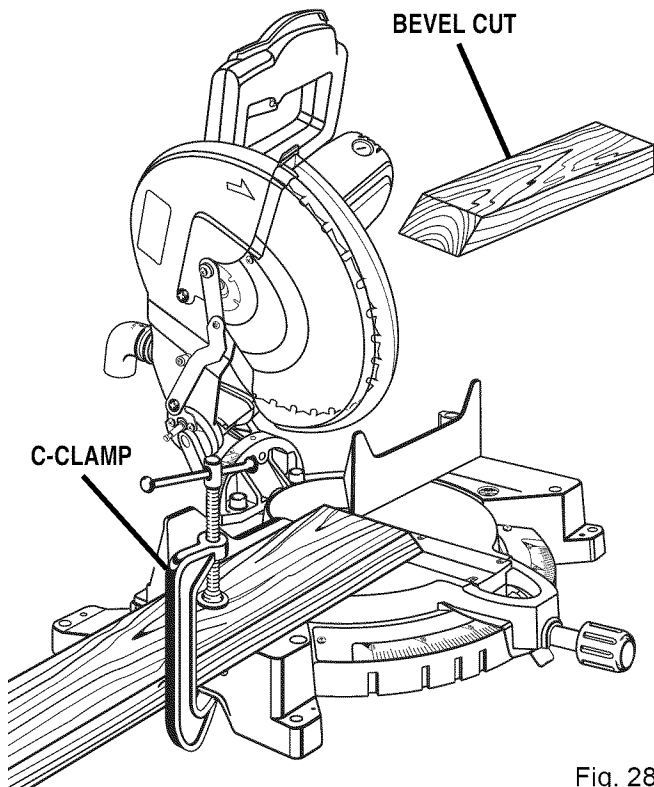

Fig. 28
- Grasp the stock firmly with one hand and secure it against the fence. Use the work clamp or a C-clamp to secure the workpiece when possible. *See Figure 28.*
- Slowly lower the blade into and through the workpiece. *See Figure 28.*